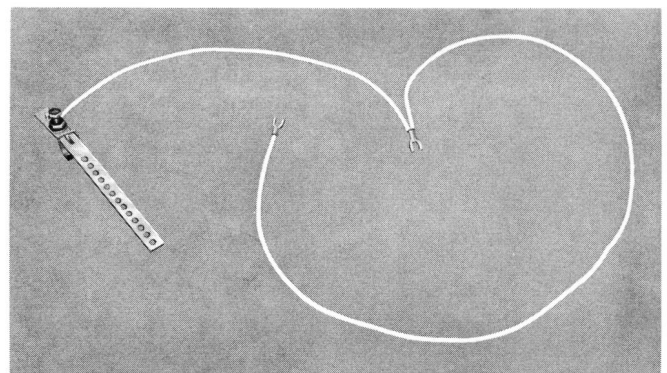

Fig. 7 — Grounding Wire Assembly
7.01 The P-12C414 grounding wire assembly, Fig. 7, is provided for attachment to KS-8164 ventilator or KS-14125 blower and coin collector.